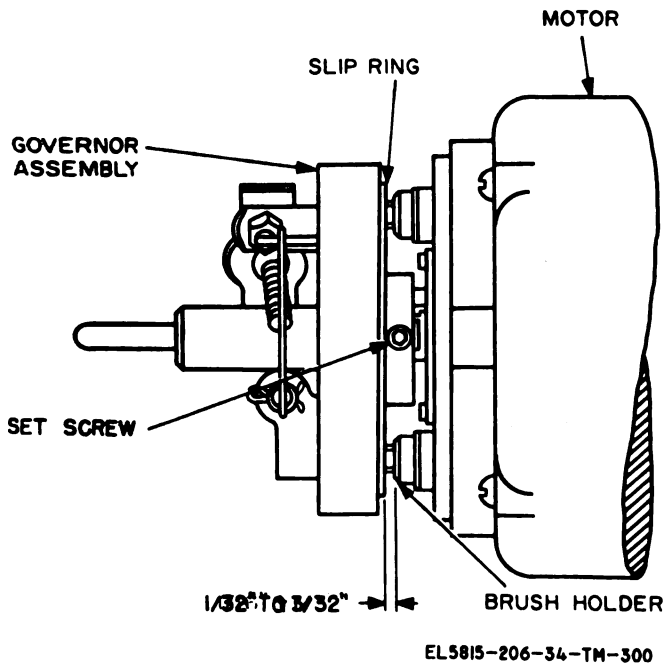

Figure 3-228. Governor-assembly locating adjustment (TT-4 (\*)/TG and TT-698(\*)/TG ).
(1) Loosen the mounting screw that secures the spring contact assembly and position the assembly to meet the requirement (a (1) above). Tighten the mounting screw.
(2) Check for dirt or bind between the governor adjustment worm and the speed adjustment gear to meet the requirement (a (2) above).
**3-265. Governor-Assembly Locating Adjustment (TT-4(\*)/ TG and TT-698(\*)/ TG) (fig. 3-228)**